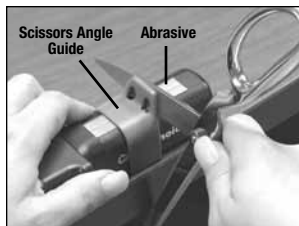

Figure 5. Suggested hold for right-handed scissors.
5. The Manual Scissor Sharpener Model 490 will sharpen either right hand or left hand scissors without need to disassemble them. If you are left handed you probably have purchased left hand scissors.* To sharpen right hand scissors, hold the wider, handle portion of the sharpener in your left hand. With left hand scissors, hold the sharpener in your right hand (see Figures 5 and 6). However, the orientation of the angle guide on the sharpener will remain the same with either right or left handed scissors.
Regardless of the type of scissors, either of the two blades can be sharpened first. Position the sharpener adjacent to the edge of a tabletop as shown in Figures 5 and 6. Put the appropriate grit diamond pad on the sharpener and slide on the correct Angle Guide as described in the following sections. You will want to hold tightly the handle of the scissor blade being sharpened in your free hand (right hand if you are sharpening right handed scissors) and press the inside mating flat face of that scissor blade securely against the guiding surface of the angle-guide as shown. Before you start
5. Hold one scissor blade by its handle tightly in your right hand as shown in Figure 5 and align the inside mating flat face of the blade against and in intimate contact with the guiding surface as shown. The other blade should hang vertically below the table surface as illustrated (Figure 5). With the blade so positioned the cutting edge of the blade will be in contact with the surface of the diamond coated pad. (The other blade should be on the
6. Holding the inside flat face of the blade constantly in intimate contact with the guiding surface while maintaining the edge in solid contact with the diamond abrasive pad, move the scissor blade forward and backward in a cutting or sawing-like motion 4 or 5 times. Stop and check to determine if a burr has formed on the flat face along the entire length of the edge. You may find it convenient to hold the blade guide with your left thumb and/or forefinger as shown in Figure 5.
8. When a burr has been created along the entire length of the first blade, remove the scissor and open and close the blades fully five (5) or more times to cut off the burr.